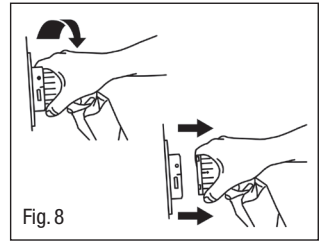

Fig. 8
5.4 Patient Transport Facility (Fig. 8)